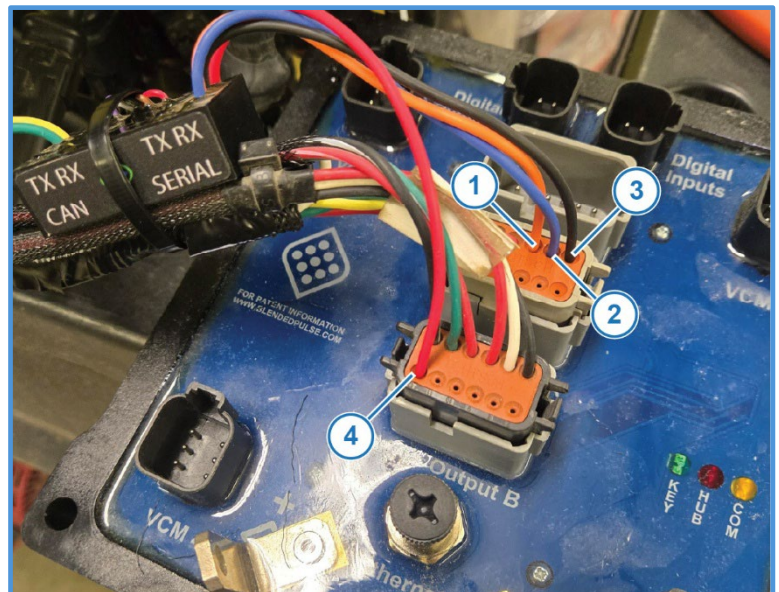

Figure 5 - CAN/Serial Module Pin Locations in PPIII Lite Hub
**Note:** If hub is a PPIII Lite (**Figure 5**), the red power wire will plug into Pin 12 of I/O B.
1. The CAN/Serial Module (**Figure 5**) should already be installed from the previous procedure